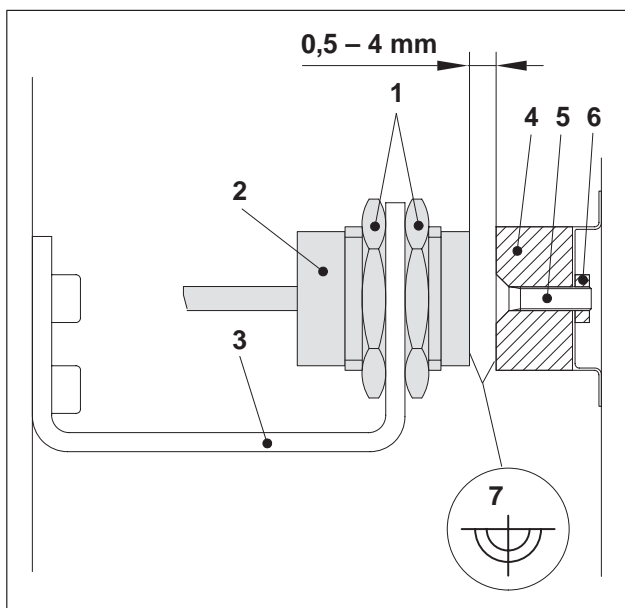

Fig. 15 Installed reed-contact switch type 171
The switch consists of a sensor (Fig. 15/2) and an actuating magnet (Fig. 15/4). Only use sensors with the casing model "171".
With the guard closed, the crosshairs (Fig. 15/7) of sensor and actuating magnet must be aligned opposite each other.
With the guard closed, the distance between the sensor and the actuating magnet must be **0.5...4 mm** (Fig. 15).
- ❶ Unscrew the fixing nuts (Fig. 15/1) of the existing sensor (Fig. 15/2) and pull the sensor out of the support (Fig. 15/3).
- ❷ Use the fixing nuts to adjust the new sensor (see above).
- ❶ Unscrew the countersunk screw with hexagon socket (Fig. 15/5) and take off the existing actuating magnet (Fig. 15/4).
- ❷ Place the new actuating magnet on the support (Fig. 15/6) (peg on the bottom of the actuating magnet must be inserted in the recess of the support).
- ❸ Moisten the hexagon-socket countersunk screw (M5x20 = HDM No.: 00.540.1471; M5x25 = HDM No.: 00.540.1362) with thread glue SN 604-S1 and tighten it.